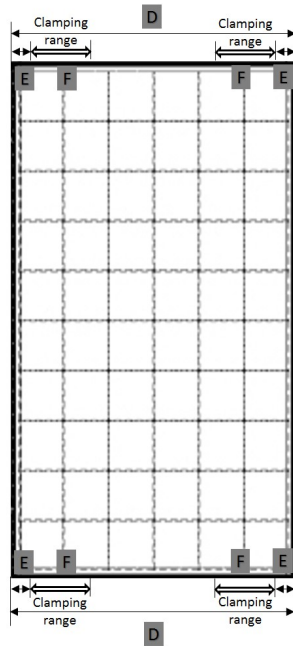

Figure 5: Short side clamping range
- For mounting the supporting rails on the short side of the frame, slide bolts through the rail grooves next to the 4 clamps locations. The module may be clamped only in the permitted clamping range. For the exact locations refer to area F in Figure 5 and Table 3.